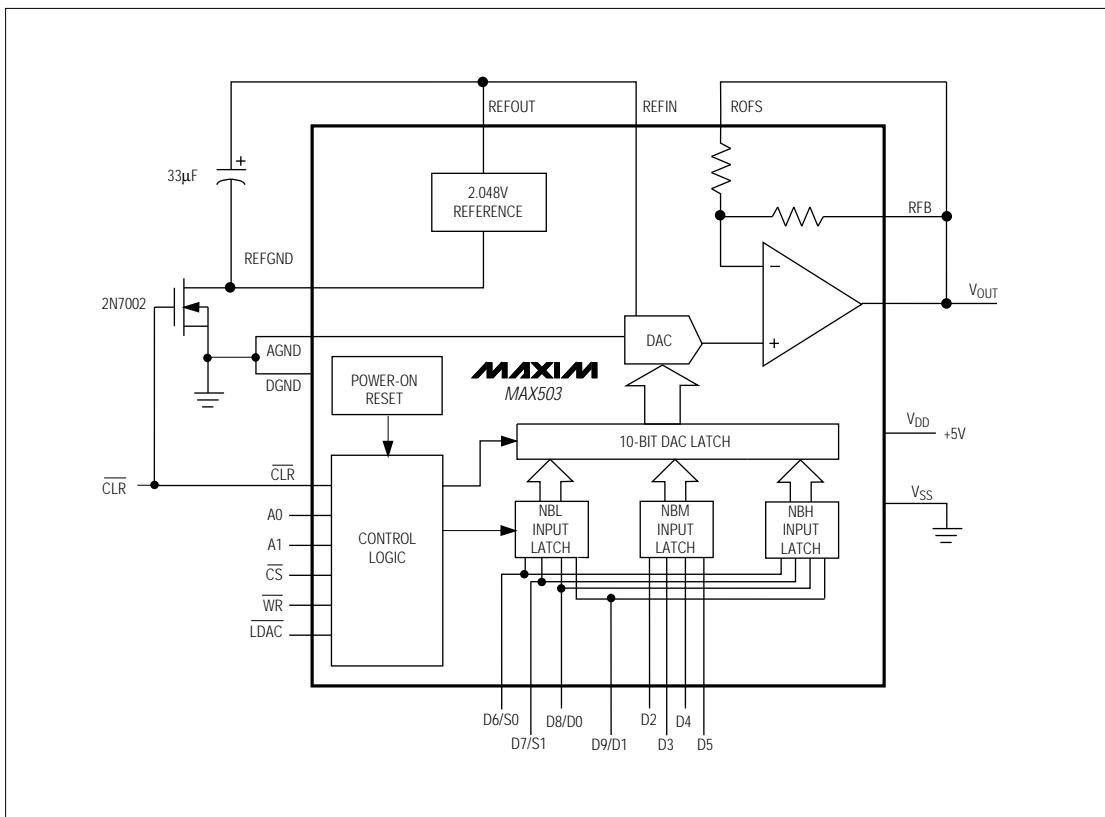

Figure 3. Low-Current Shutdown Mode
An additional 110µA of supply current can be saved when the internal reference is not used by connecting REFVDD to VDD. A low on-resistance N-channel FET, such as the 2N7002, can be used to turn off the internal reference to create a shutdown mode with minimum current drain (Figure 3). When CLR is high, the transistor pulls REFVDD to AGND and the reference and DAC operate normally. When CLR goes low, REFVDD is pulled up to VDD and the reference is shut down. At the same time, CLR resets the DAC register to all 0s, and the op-amp output goes to 0V for unity-gain and G = 2 modes. This reduces the total single-supply operating current from 250µA (400µA max) to typically 40µA in shutdown mode.
In order to provide hardware and software compatibility with the 12-bit MAX530, the MAX503 employs a 12-bit digital interface. As shown in Figure 3, there is actually a 12-bit input latch, and therefore 12 bits of data should be written. The two least significant bits (S1 and S0) are sub-LSB, and must always be 0s. Designed to interface with 4-bit, 8-bit, and 16-bit microprocessors (μ Ps), the MAX503 uses 8 data pins and double-buffered logic inputs to load data as $4 + 4 + 4$ or $8 + 4$. The 12-bit DAC latch is updated simultaneously through the control signal LDAC. Signals AO, A1, WR, and CS select which input latches to update. The 12-bit data is broken down into nibbles (NB): NBL is the enable signal for the lowest 4 bits (S0, S1, D0, D1), NBM is the enable for the middle 4 bits, and NBH is the enable for the highest and most significant 4 bits. Table 2 lists the address decoding scheme.